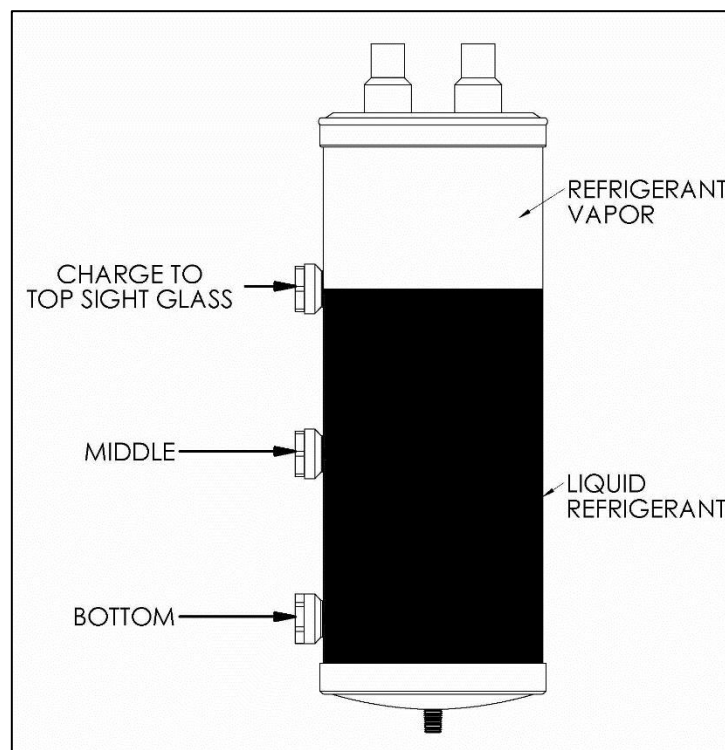

Figure 28. Charging to the Top Sight Glass
8. After verifying that the system is operating at saturation in heating mode, **and with the system still operating in heating mode**, slowly open the LP valve on the manifold gage set, and **slowly** add refrigerant to the system until **the refrigerant liquid level is at, but not above, the top ACC sight glass**, as shown in Figure 28. At no time should the refrigerant liquid level be above the top ACC sight glass.